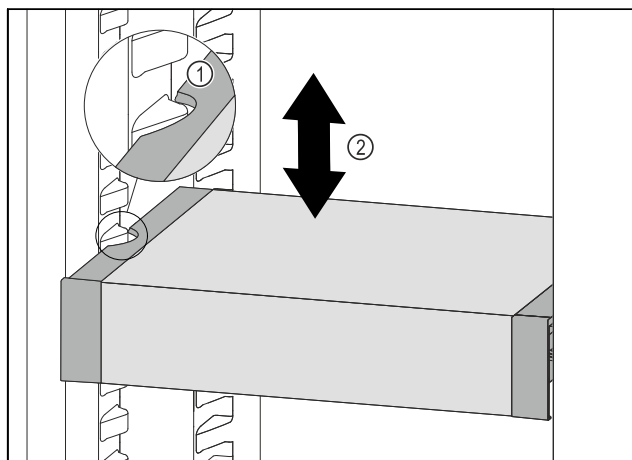

Fig. 108
- Pull VarioSafe forwards until the recesses in the side of the VarioSafe are at the level of the support rib in the refrigerator compartment. Fig. 108 (1)
- Move VarioSafe up or down in the refrigerator compartment until the desired height is reached. Fig. 108 (2)